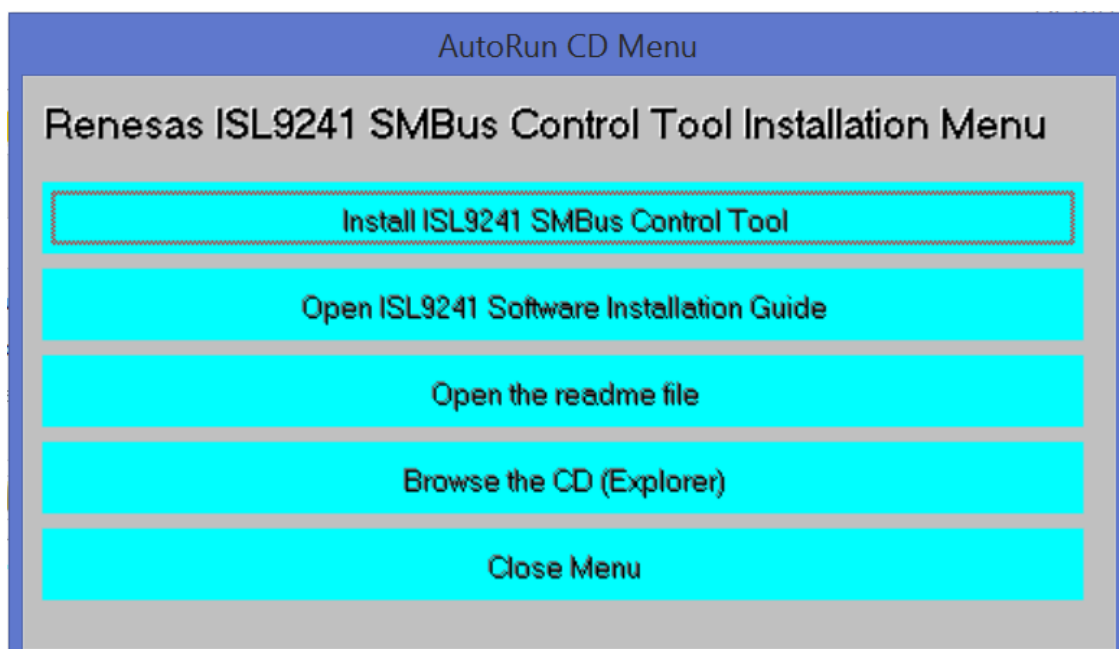

Figure 2. ISL9241 SMBus Control Tool Installation Wizard
2. Run **autorun.exe**. The menu in Figure 2 appears.